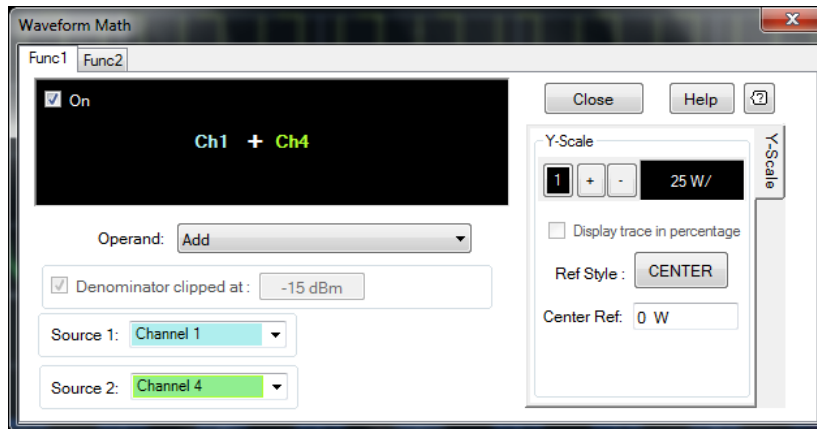

Figure 2-54 Waveform Math dialog
- 2 The Waveform Math dialog is displayed as shown in Figure 2-54 to allow you to select the channel source and the type of math operation to perform. The available math operations are Add, Averaging, Common mode, Divide, Invert, Magnify, Multiply, Power-added efficiency, Power-added efficiency 2, Subtract, Square, and Square Root.